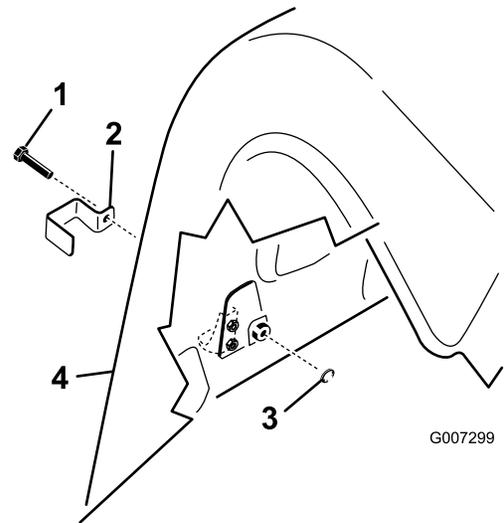

Figure 18
1. On the ProCore 864 model, install a lock bracket over the left and right rear lower hood and upper hood latches with a tap bolt (4 total); refer to Figure 18.
2. On the ProCore 1298 model, install a lock bracket over all the rear lower hood latches and the outside upper hood latch on both the right and the left rear covers with a tap bolt (3 per coring head, 6 total); refer to Figure 18.
- Using a pliers or adjustable wrench, thread an internal lock washer onto each bolt (1 to 2 threads) to secure the latch (Figure 18).